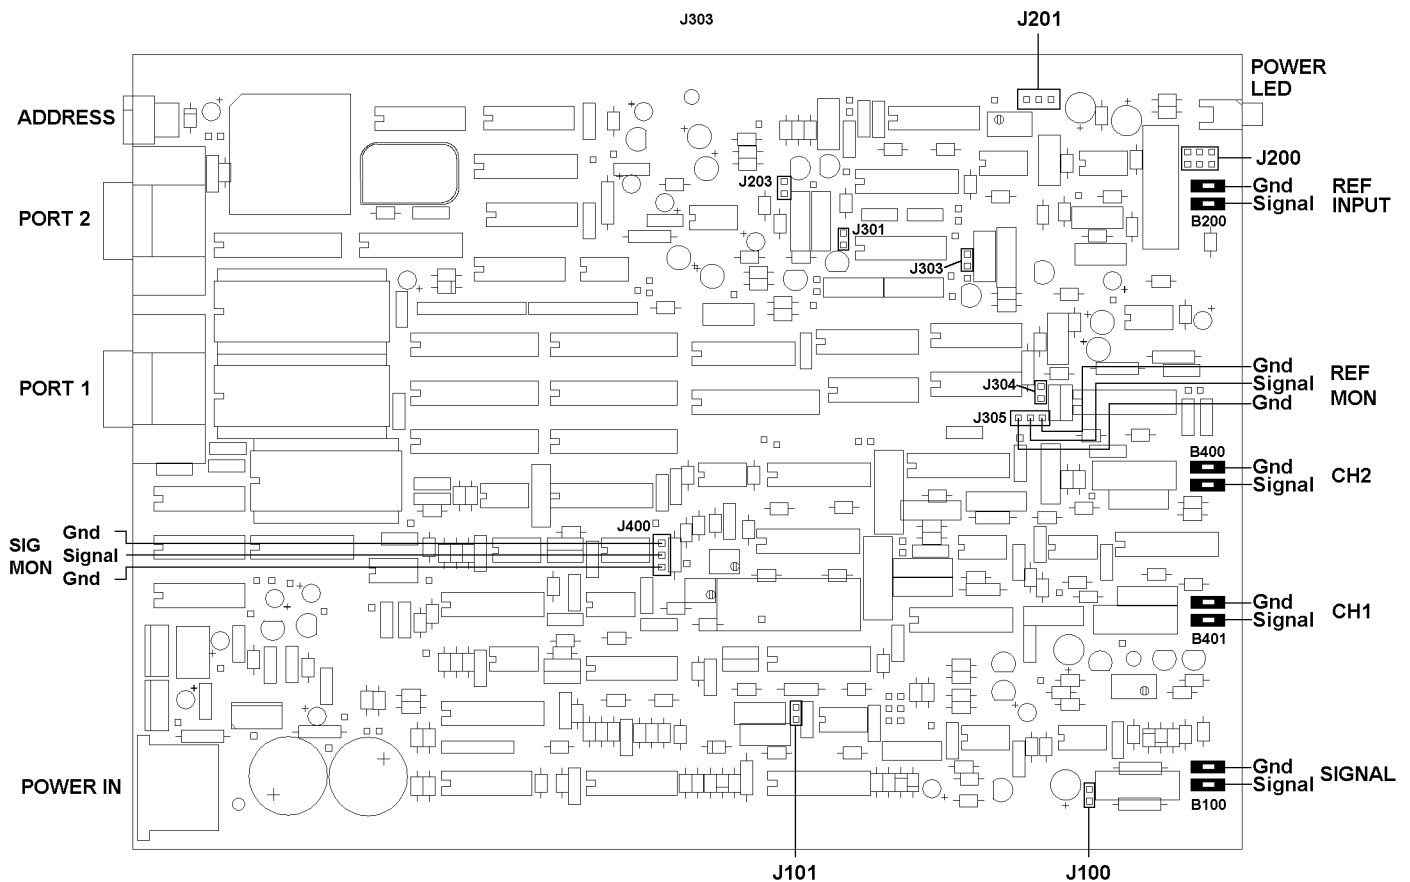

Figure 3-2, Model 5105/5106 PCB Assembly - Component Side
- 3) Refer to figure 3-2 in chapter 3 and connect one of the prepared cables to the solder pads on the PCB identified as B100, SIGNAL input. Connect the second cable to the REF IN pads, B200. Take care to ensure that the braid, or outer of the coax, goes to the pads marked "Gnd", with the inner to the pads marked "Signal".
- 3) Refer to figure 3-2 and identify the position of jumper J100 close to the signal input.
- 3) Refer to figure 3-2 and identify the position of jumper J101.
- 3) Refer to figure 3-2 and identify the position of jumpers J200 and J201.
- 3) Refer to figure 3-2 and identify the position of the four jumpers J203, J301, J303 and J304.